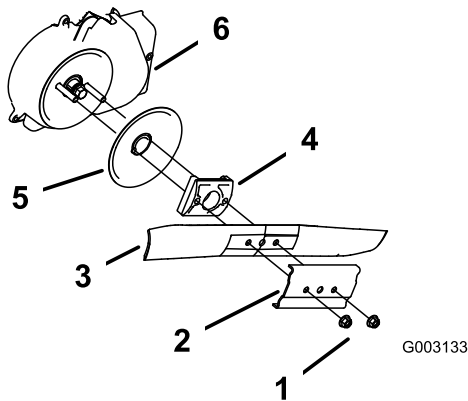

Figure 45
3. Remove the 2 blade nuts and the stiffener (Figure 45).
4. Remove the blade (Figure 45).
5. Install the new blade (Figure 45).